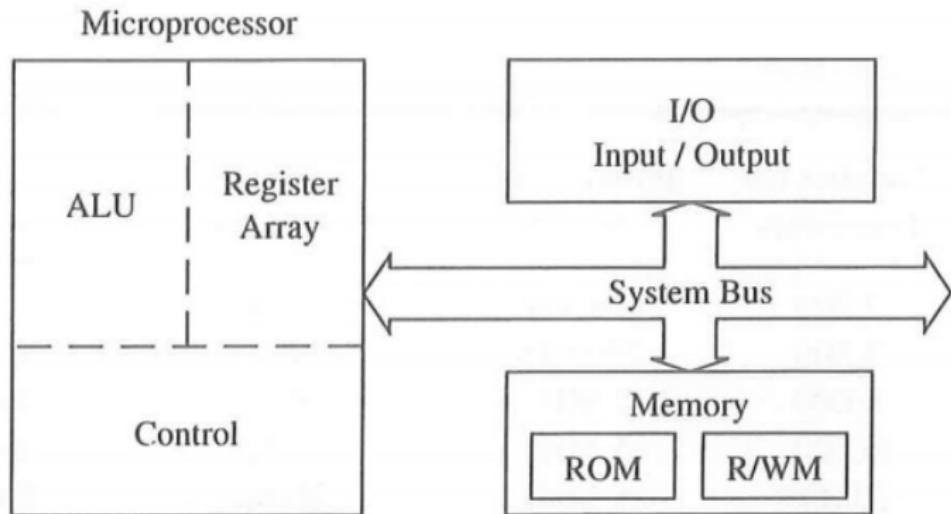

Figure 5: A microprocessor based system
- The figure 5 shows a microprocessor based system with the main components including the system **bus**.